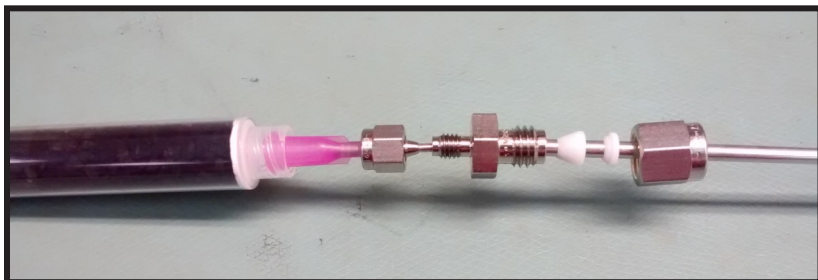

Figure 3.3-4: Assembly of fittings for attaching inlet filter to Inline Diluter
- Assemble fittings as shown in figure 3.3-4. It may be helpful to use tubing, or in this case the sample inlet probe of the inline diluter to guide the ferrules into correct position.